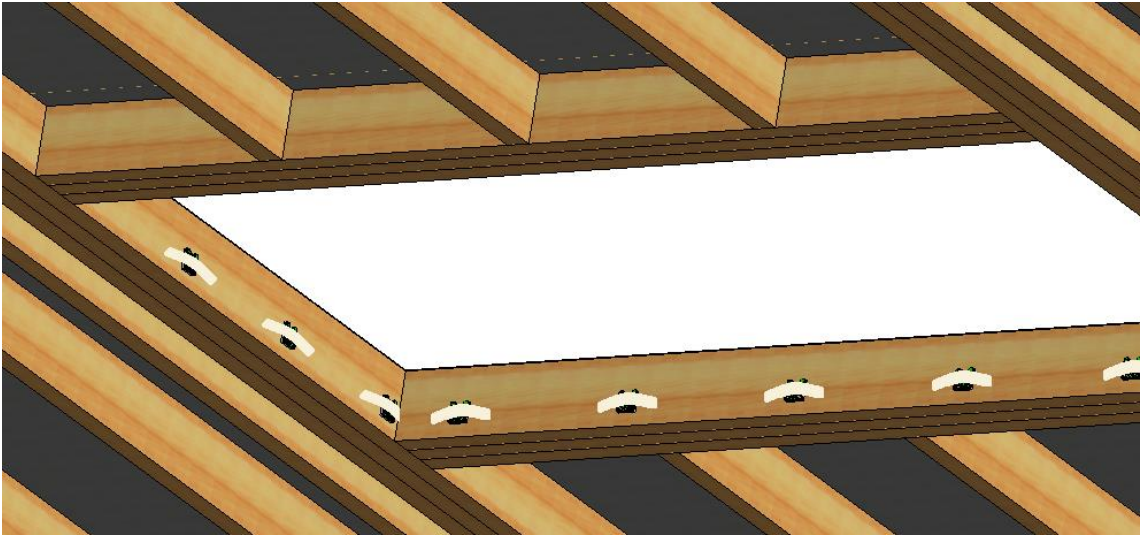

Fig. 4c – Tape plastic packers along jambs and cill
- Using masking tape, tape the plastic packers (supplied) along the jambs and cill (fig. 4c), ensuring that the product will sit centrally in the aperture – there should be a nominal 10mm gap on all sides (filled with packers)